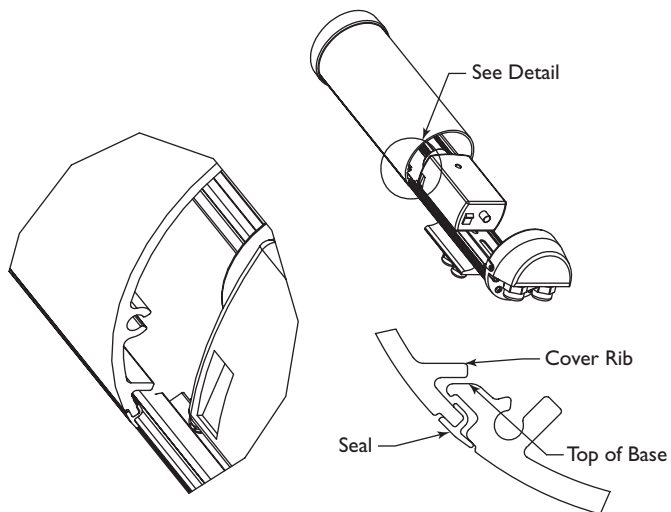

FIGURE 8 Reinstalling the Cover
2. Reinstall the cover. Align the bottom of the cover ribs with the top of the base. Slide the cover onto the base. Make sure the seal is not folded over or torn. Use silicone grease to lubricate the seals if necessary. See FIGURE 8.